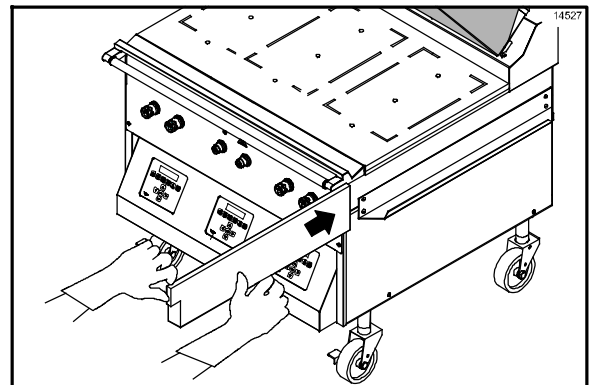

Figure 71
- 44. Re-install the grease pans. (See Figure 71.)